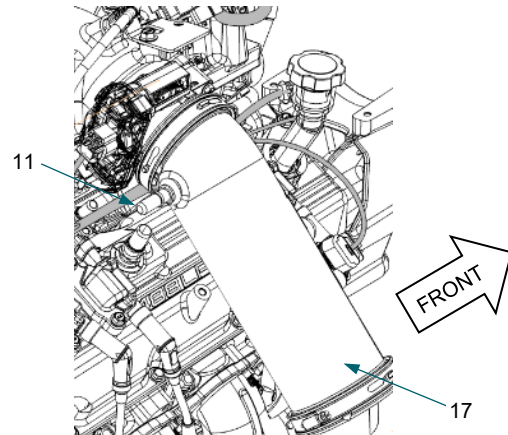

Figure 7: Make-up air line fitting (11), intake air tube (17).
1. Remove make-up air line (*not shown*) from make-up air line fitting (11) on intake air tube (17). *Figure 7*